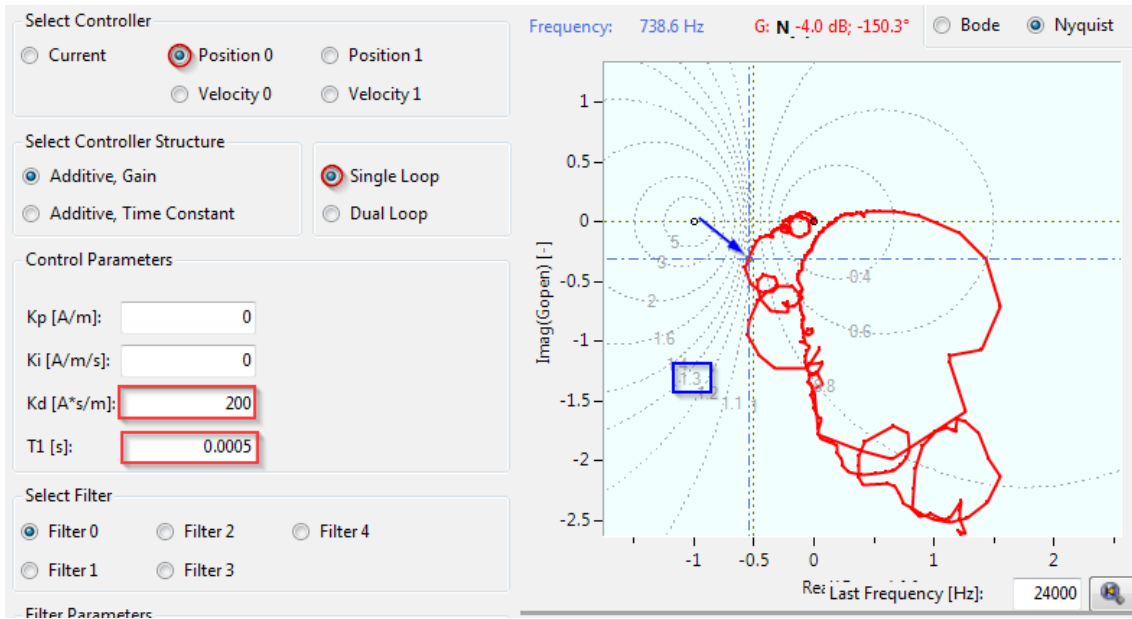

Figure 7: Tuning of inner controller loop.
- Activate **Position 0** in the **Select Controller** panel and **Single Loop** in the **Select Controller Structure** panel (Figure 7).
- In the Nyquist view the differential gain **Kd** can now be adjusted so that the open loop transfer function touches but does not exceeds the the circle labeled with 1.3 (Figure 7).